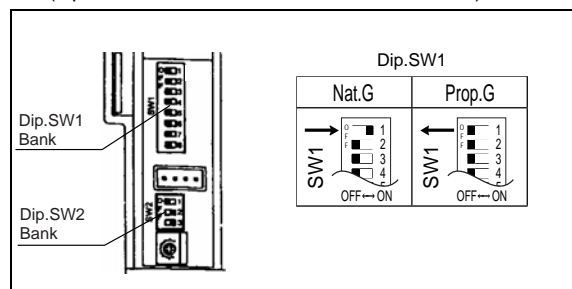

Fig. 1
4. Check gas type switches (Fig.1) are in the correct position (dip switch 1 of SW1 'ON' = NG, 'OFF' = LPG).